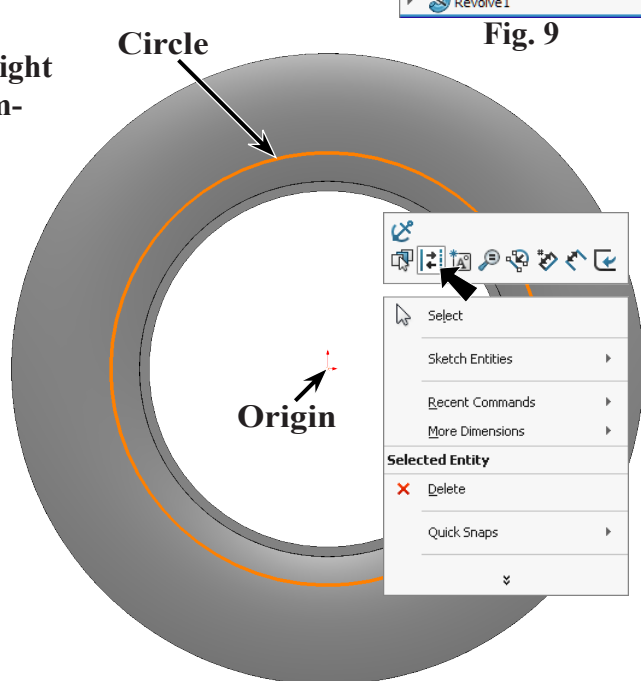

Fig. 10
Step 3. Click **Circle**  (S) on the Sketch toolbar.
Step 4. Draw a circle starting at the Origin , **right click circle** and click **Construction Geometry**  on the context toolbar, **Fig. 10**.